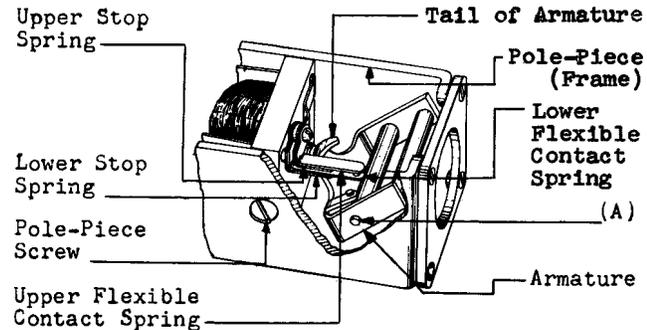

Fig. 1 — 186-Type Relay
2.03 Armature Movement: Fig. 1(A) — The armature shall move freely in its bearings and shall not bind against any other part of the relay.
2.07 Armature Clearance: Fig. 1 — With the armature in its operated position, there shall be a clearance between the armature and the lower stop spring of minimum 0.008 inch.